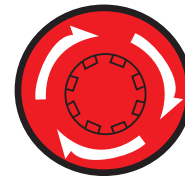

Figure 22. Emergency Stop Switch
1. To stop the engine in the event of an emergency, press the **Emergency Stop** switch (Figure 22), located on the side of the generator next to the output terminal panel.